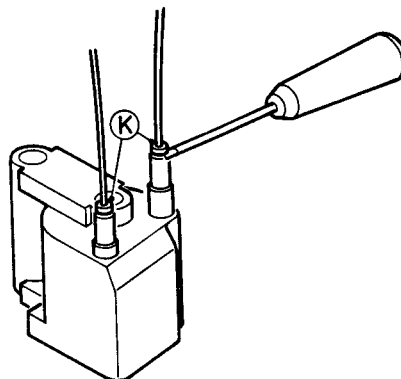

Fig. 2a
7. Disconnection of the EHT cable and focus cable at the line output transformer can be achieved by levering the clamping bushes "k" up with a screwdriver or side-cutting pliers (Fig. 2a). When re-inserting the cable, the clamping bush should first be pressed on the transformer until a click is heard, after which the cable can be inserted. Introduce the cable as far as the second mark.